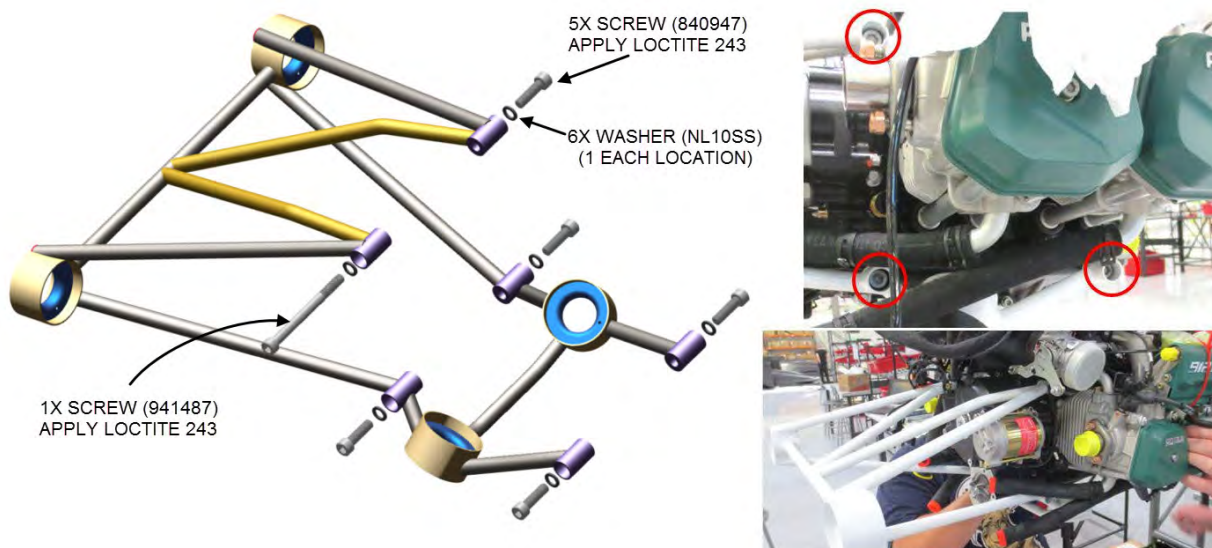

FIGURE 17-17
4. Remove the six M10 screws that attach the ICA007128 engine mount to the engine case (see Figure 17-17).
1. Install the engine mount as shown in Figure 17-17. The single long screw is a 941487. The five short screws are 840947. The washers are Nord-Lock NL10SS. Apply LOCTITE® 243™ to the screw threads on installation and torque each of the six screws to 30 ft-lb_f.